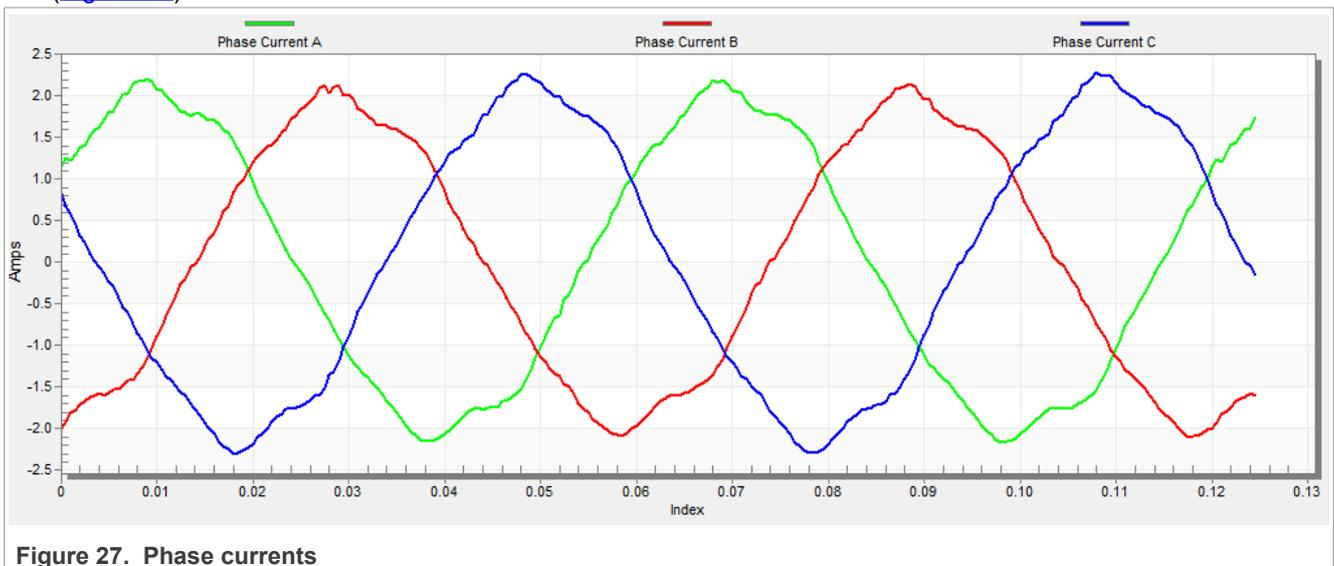

Figure 27. Phase currents
5. The optimal ratio for the V/Hz profile can be found by changing the V/Hz factor directly using the "Scalar V/Hz factor ratio" MCAT input. The shape of the motor currents should be close to a sinusoidal shape (Figure 27).